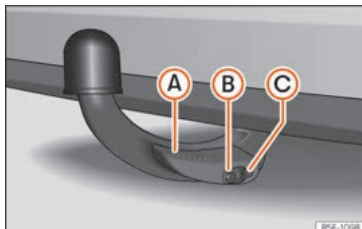

Fig. 298 Detachable ball properly attached.
- Lever (A) » Fig. 298 is fully raised.
- The release bolt (B) » Fig. 298 is sticking fully out (the red and green part is visible).
- Cover (C) » Fig. 298 is placed over the lock.